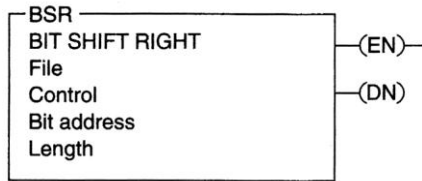

Figure 12-18 BSR instruction for question 33.
33. For the BSR instruction of Figure 12-18, which parameter tells the processor the